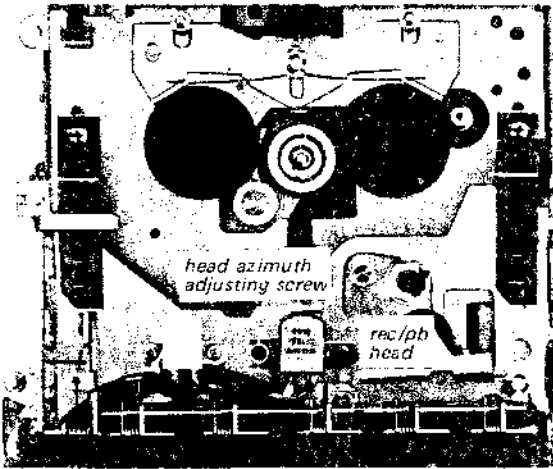

Fig. 4-4. Adjusting parts location
2. Adjust the azimuth adjusting screw (see Fig. 4-4) for maximum output on the ac VTVM.